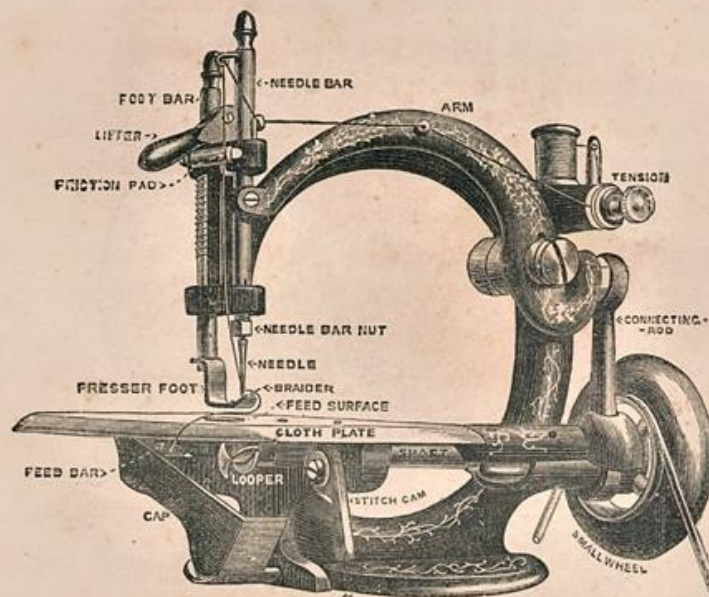

FIG. 2.—NAMES OF THE PARTS OF THE MACHINE.
- (c) Compare fig. 2, also 13 (b), to see that the machine is properly threaded.
draw it between them. Taking the cotton just below the friction-pad, draw it into the notch of the friction-pad, between the friction-pad and the flat spring behind it (fig. 2).